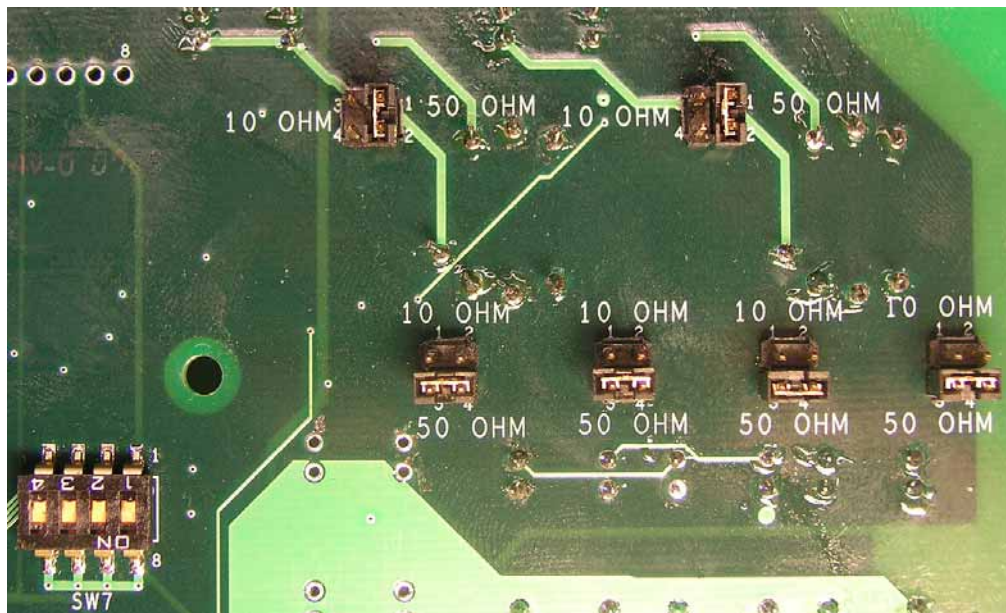

Figure 2.1
Locate the six (6) jumpers marked 10 OHM and 50 OHM (see Figure 2.1 below)